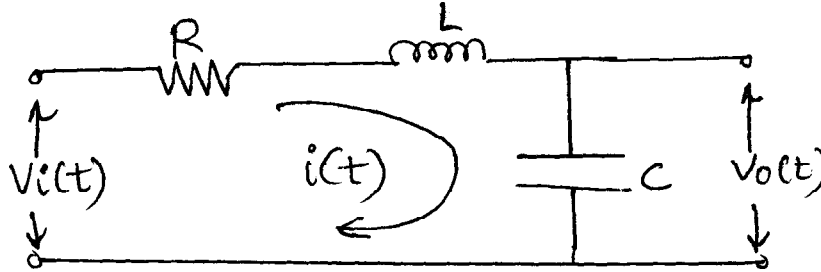

Fig. No. 2
- a) Derive the transfer function of given network. Refer Fig. No. 2.